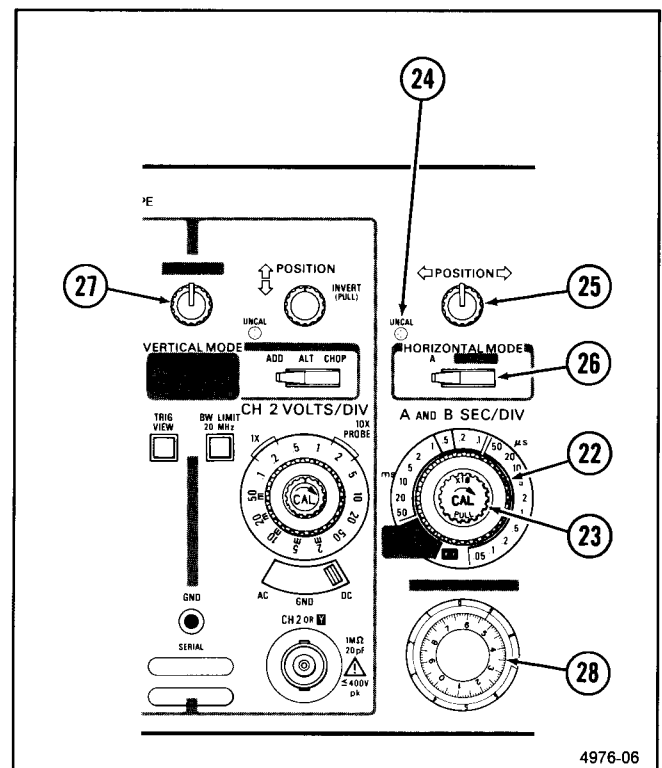

Figure 2-5. Horizontal controls and indicator.
Refer to Figure 2-5 for location of items 22 through 28.